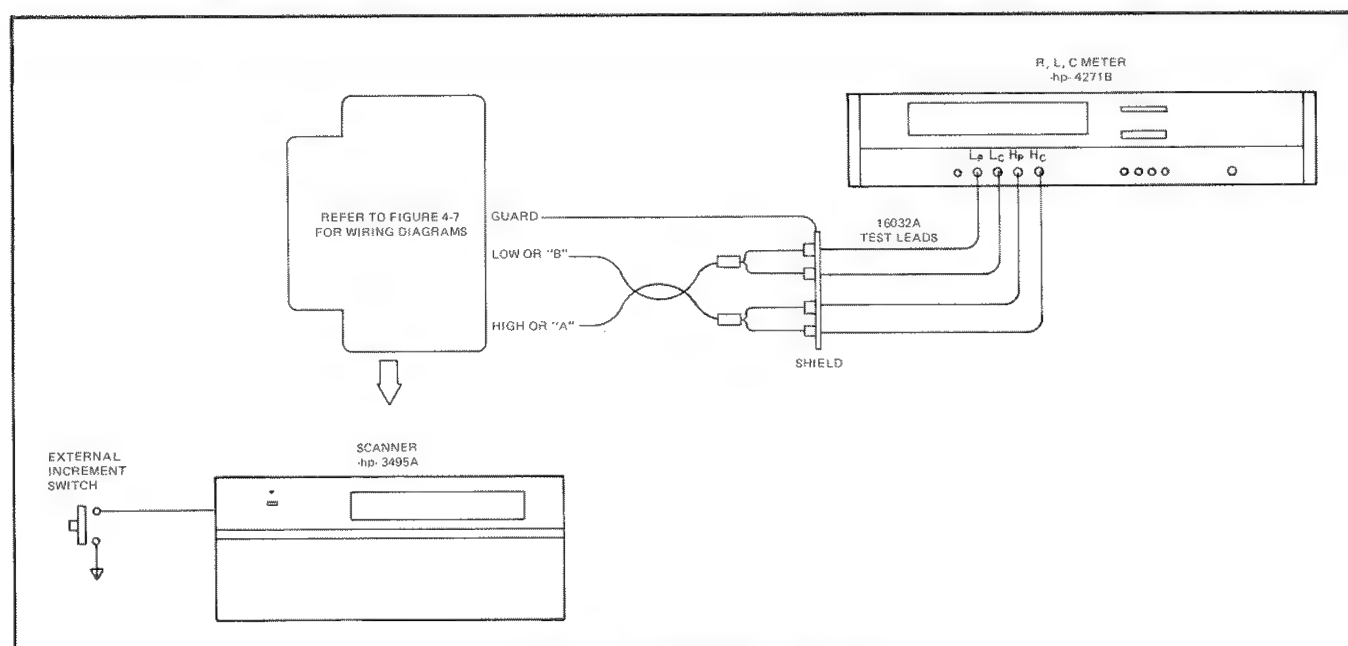

Figure 4-8. Capacitance Test Setup.
a. Connect the test setup as shown in Figure 4-8. Allow the R L C meter 1 hour warmup time before proceeding.